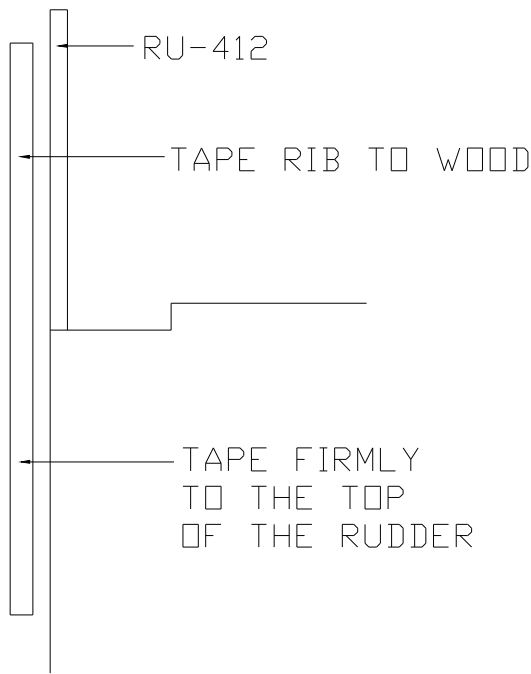

Figure 4.3.1
1) Cleco the top Rudder Tip Rib (RU0412) into place if it is not already there. Keep the Rudder and the rib in place with a straight edge. (Use a 1" x 1" piece of wood. Clamp or tape the wood in place). Figure 4.3.1.